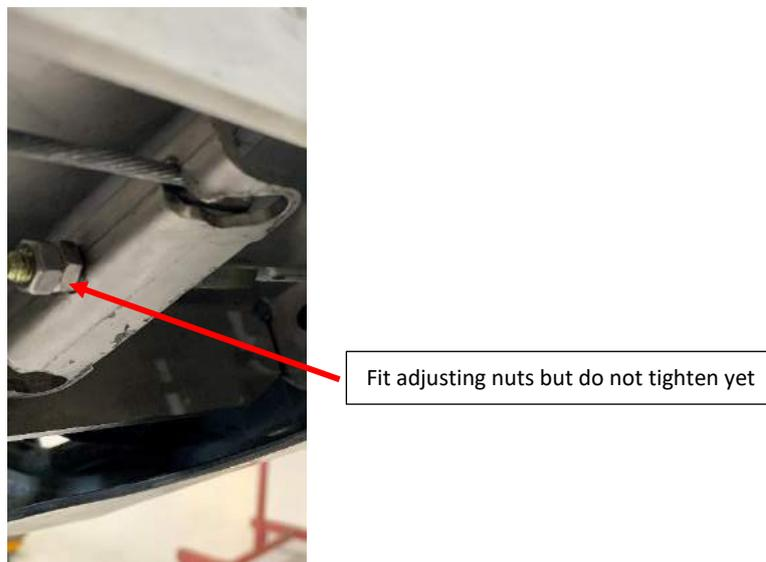

Figure 29
17. Feed the cabin-cable into the balance bar and thread the two adjusting nuts onto the end (Figure 29). Do not tighten the adjusting nuts yet.